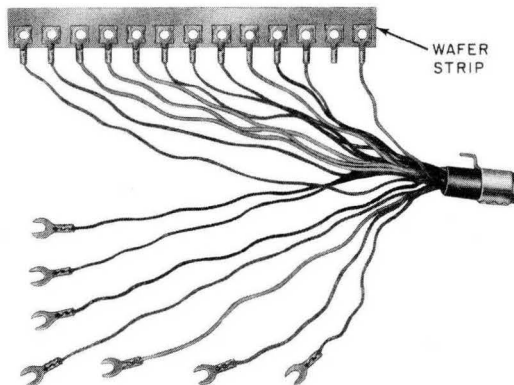

Fig. 9—Non-slotted Wafer Strip End of Mounting Cord, Early Type
- 2.17** The set ends of mounting cord conductors are furnished with individual spade tips or wafers for terminating on 588-, 589-, or 636-type keys (Fig. 9, 10, and 11).
3.06 Replace mounting cords of early manufacture (Fig. 9) as follows: